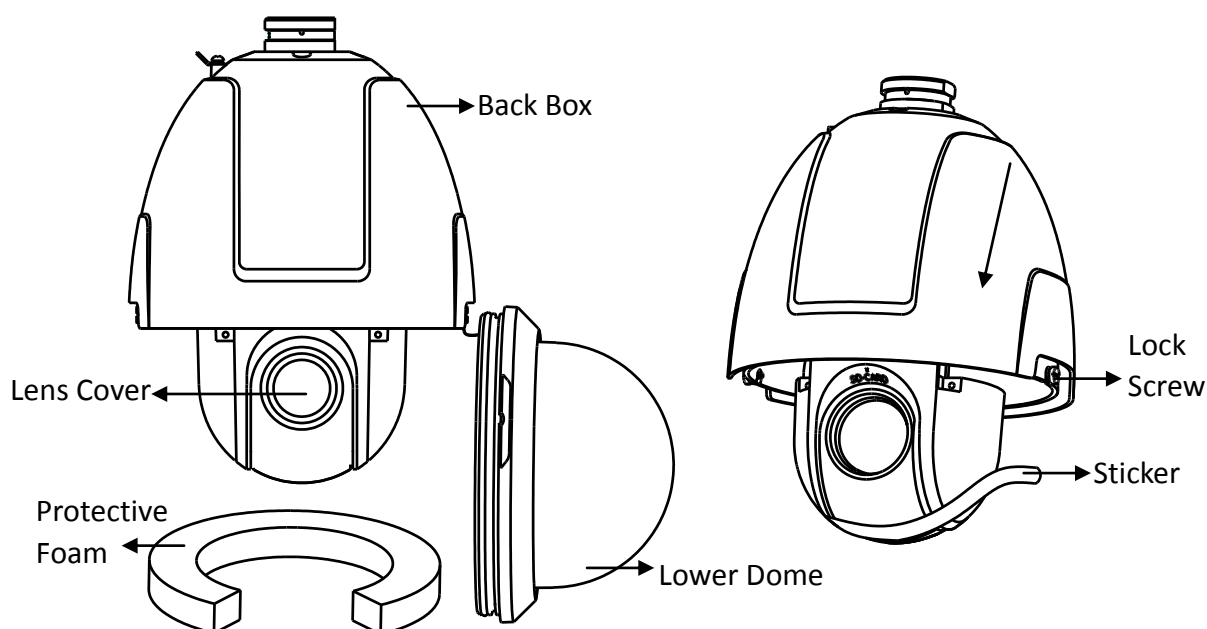

Figure 1-3 Remove the Lower Dome
1. Loosen the two lock screws on both sides of the speed dome. Pull the lower dome to separate it from the back box as shown in Figure 1-3.